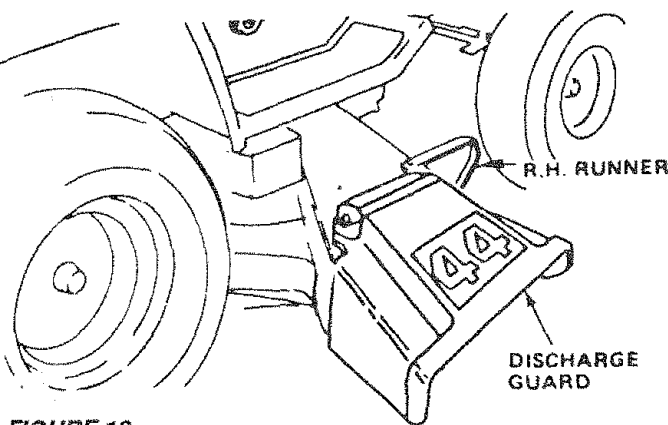

FIGURE 16
- Use the runner on the R.H. side as a guide; the blade cuts approximately 2.54 cm (1 inch) outside the runner (Fig. 16).
Your mower has a flip-up discharge guard (Fig. 16) for door or gate clearance when held in raised position.